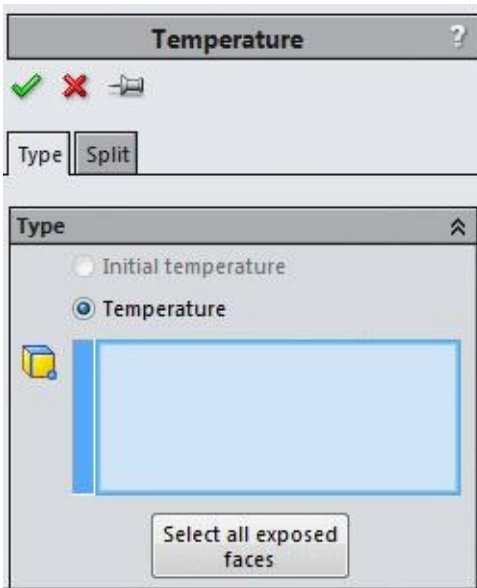

Figure-2. Temperature PropertyManager
- Click on the **Temperature** tool from the list of tools displayed on click down arrow below **Thermal Loads** in the **Ribbon**. The **Temperature PropertyManager** will be displayed as shown in Figure-2.